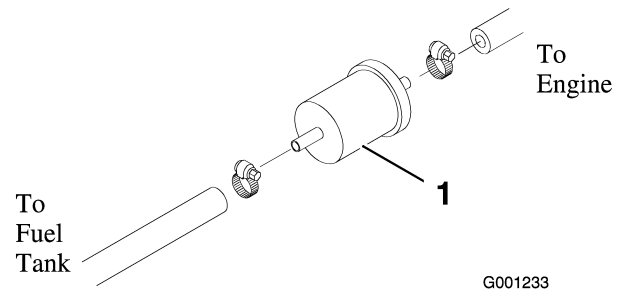

Figure 49
Replace the fuel pre filter (Figure 49), located between fuel tank and fuel pump after every 450 operating hours or yearly, whichever occurs first.
1. Clamp both fuel lines that connect to the fuel filter so fuel cannot drain when the lines are removed (Figure 49).